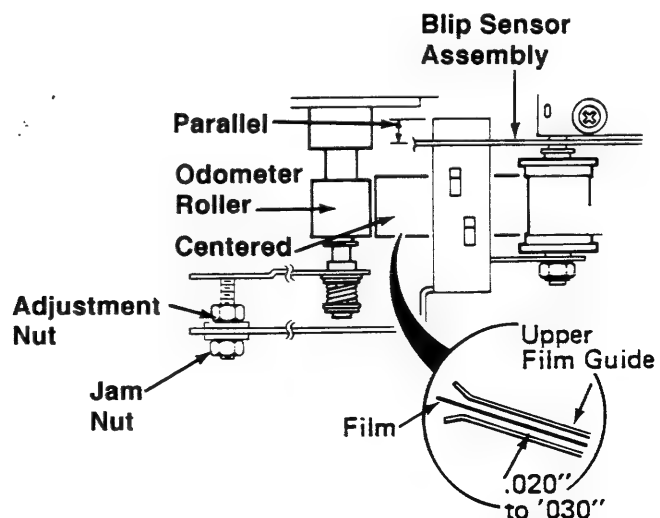

Figure 2-5.1A
2. Loosen the Jam Nut (Figure 2-5.1A) and adjust the Blip Sensor Assembly up or down so that the film is between 0.020 inch to 0.030 inch (0.51 to 0.76 mm) from the bottom surface of the Upper Film Guide (Figure 2-5.1A) and tighten the Jam Nut.